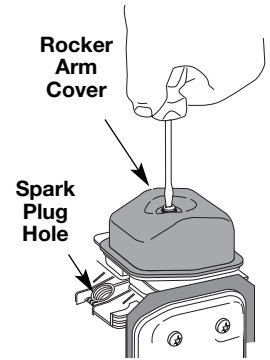

Fig. 31
5. Clean dirt from around the rocker arm cover. Remove the screw holding the rocker arm cover with a large flat blade screwdriver or Torx T-25 bit (Fig. 31). Remove the rocker arm cover and gasket.
The recommended clearance for both intake and exhaust is .003 – .006 in. (.076 – 0.152 mm). Use a standard automotive .005 in. (0.127 mm) feeler gauge. The feeler gauge should slide between the rocker arm and valve stem with a slight amount of resistance, without binding. See Figures 31 and 32.